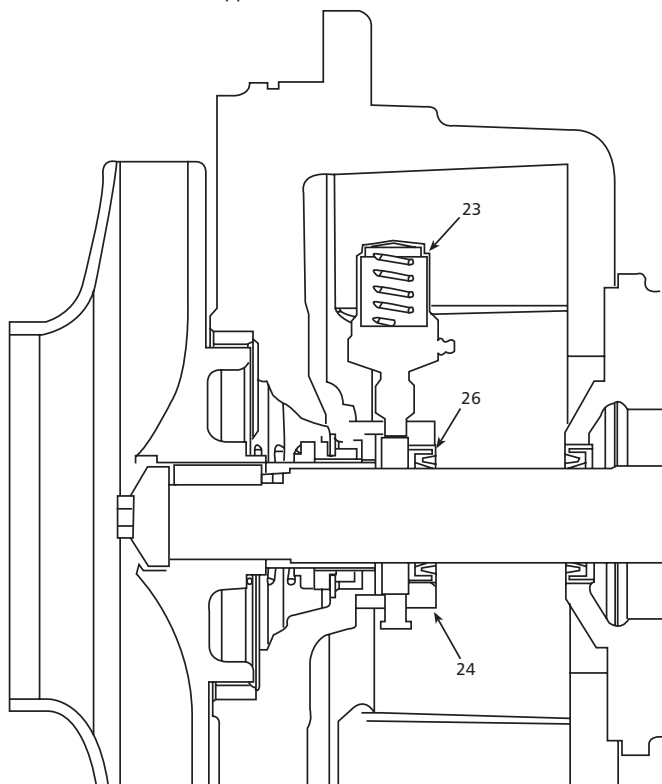

Figure 15
1. The grease gland (24) will have the letters "G" and "O" stamped on the outside diameter and have two 1/8" NPT connections for mounting a grease feeder or oiler.
2. For grease feed applications, the grease gland is assembled with the “G” stamp in the 12 o’clock position. The grease feeder (23) will mount in the grease gland at a 30 degree angle from the horizontal. This is done to gain access to the grease fitting located on the grease feeder. The lip seal (26) mounted in the grease gland will be assembled as shown in Figure 15.